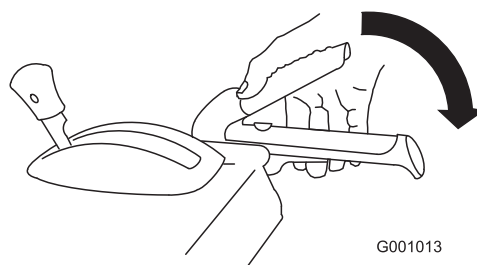

Figure 36
2. Engage the auger/impeller lever and hold it in place (Figure 36).